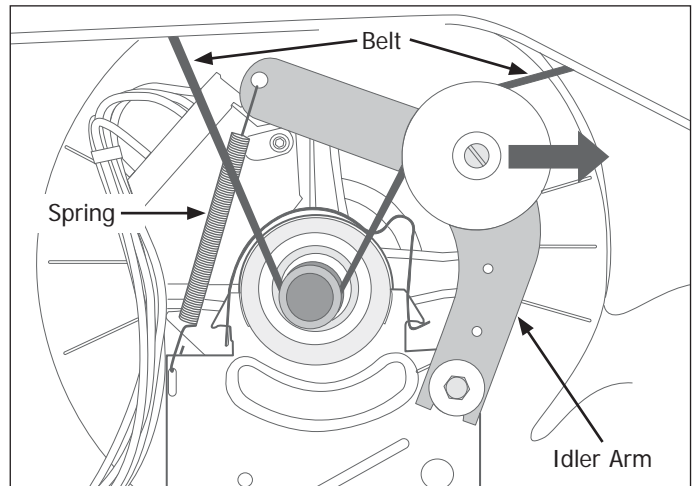

Figure 4-26.
2. From the rear of the unit, reach under the drum and pull the idler arm assembly to the right and release the belt from the roller guides and motor pulley. (See Figure 4-26)